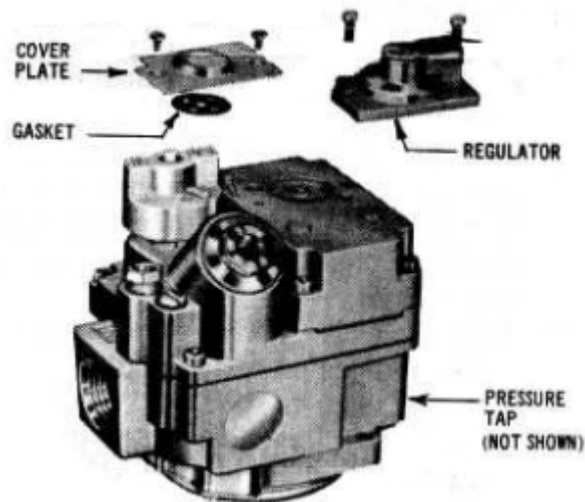

Figure 8.3: DE-50 and Larger Gas Valve Regulator Assembly
2. Remove (refer to figure 8.3 on page 45):